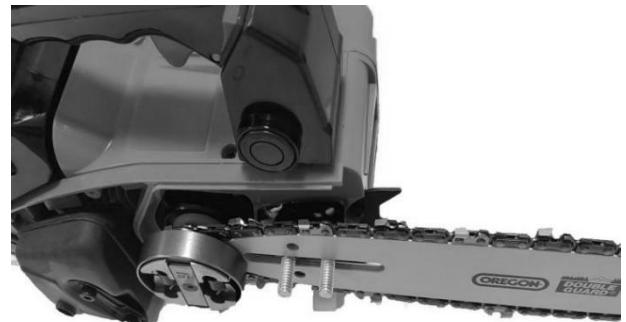

Fig. 9
9. Before assembling protection cover the bolts should fit into the holes and the chain tensioning pin fits into the lower hole in the bar (fig. 9).